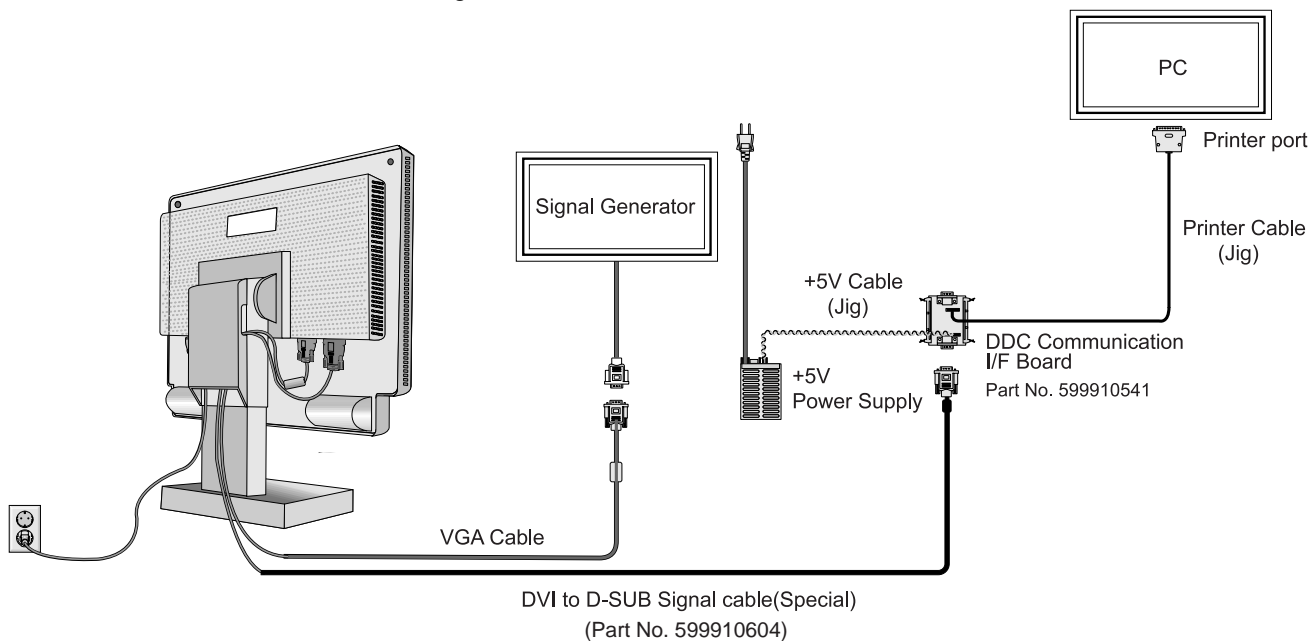

Fig 3.1.2 DVI connector connection
- 1) Connect the EDID data writing unit with jigs, etc. (Fig. 3.1.2 Refer to a DVI connector connection.)